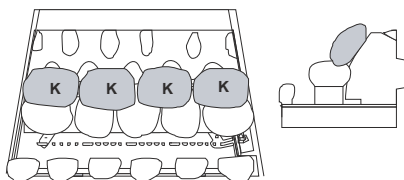
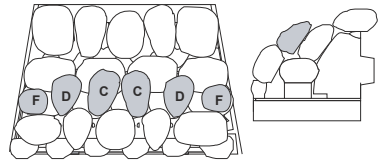

Figure 26
Figure 29
5. Proceed with laying the rest of the pebbles in accordance with **Figure 26** to **Figure 29**.